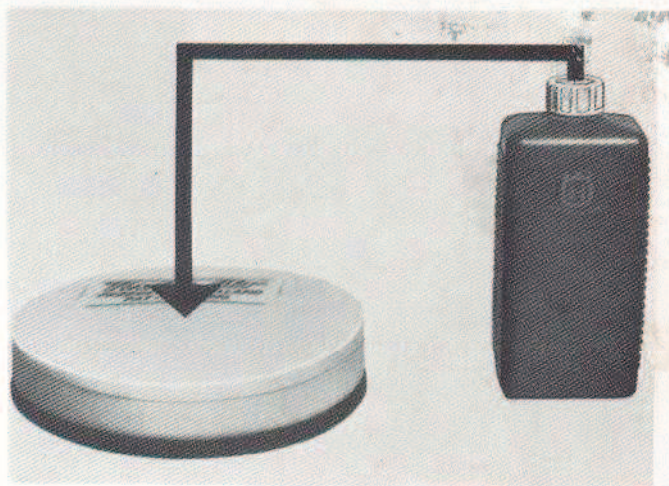

Fig. 19.1
- Squeeze the filter lightly between your palms to get even oil absorption. See fig. 19.1, 19.2 and 19.4.